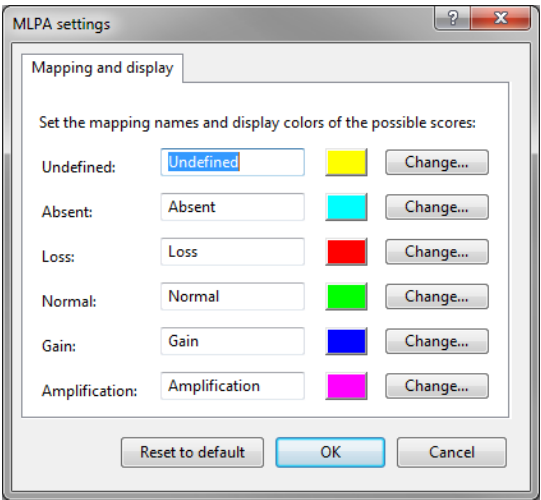

Figure 3.13: The *MLPA settings* dialog box.
4.1 Select **MLPA > Settings** to display the *MLPA settings* dialog box (see Figure 3.13).